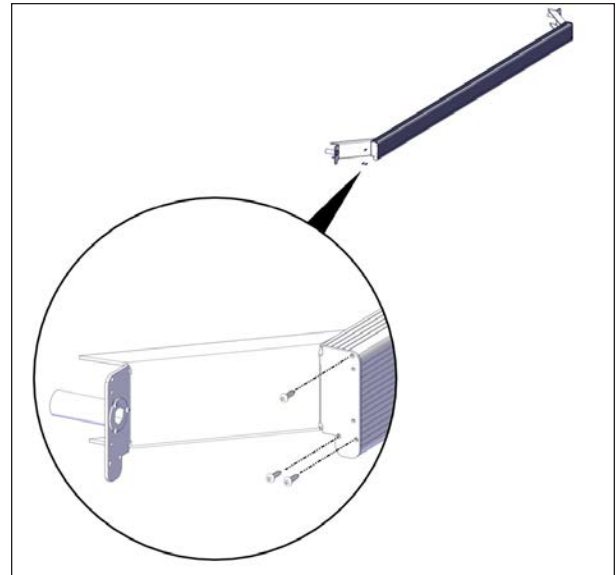
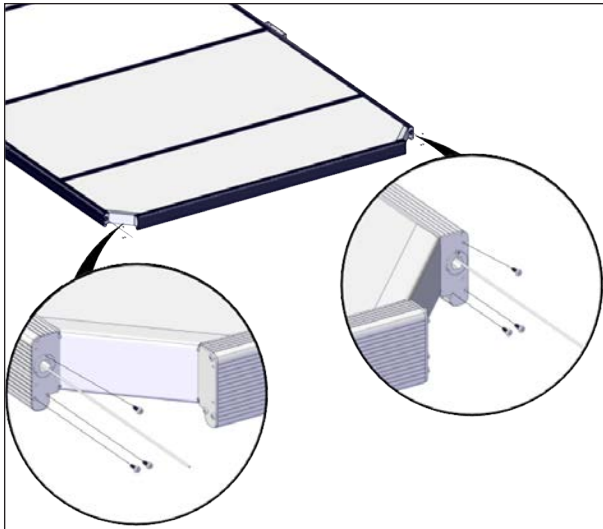
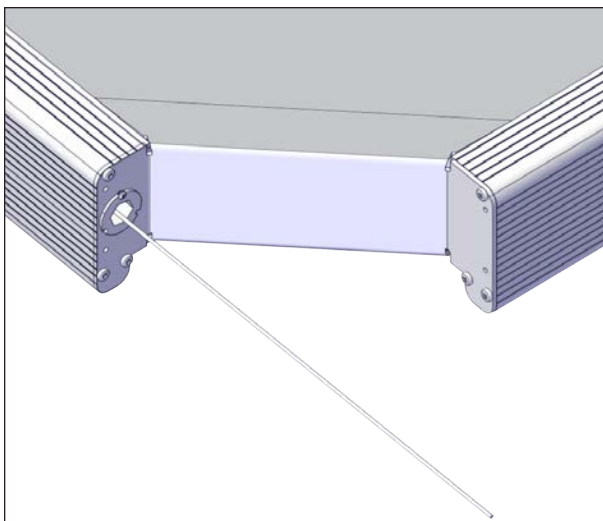

FIGURE 55: CORNER BRACKET SUPPORT INSTALLATION
FIGURE 56: END C-CHANNEL INSTALLATION
FIGURE 57: WIRE INSTALLATION
2. Install the left and right corner bracket supports on each end C-channel by using a #2 square screwdriver and the #8 X 1/2" screw, see Figure 55.
Figure 55 and Figure 56 display the proper orientation of the left and right brackets.
3. Take the assemblies made at the previous step (Figure 55) and slide them on the edge panels (Figure 56) located on each side of the cover. Make sure that the wire passes through the hexagonal guide bushings (Figure 57).
4. Use a #2 square screwdriver to secure the corner bracket on the C-channel end by using the #8 X 1/2" screws (Figure 56).